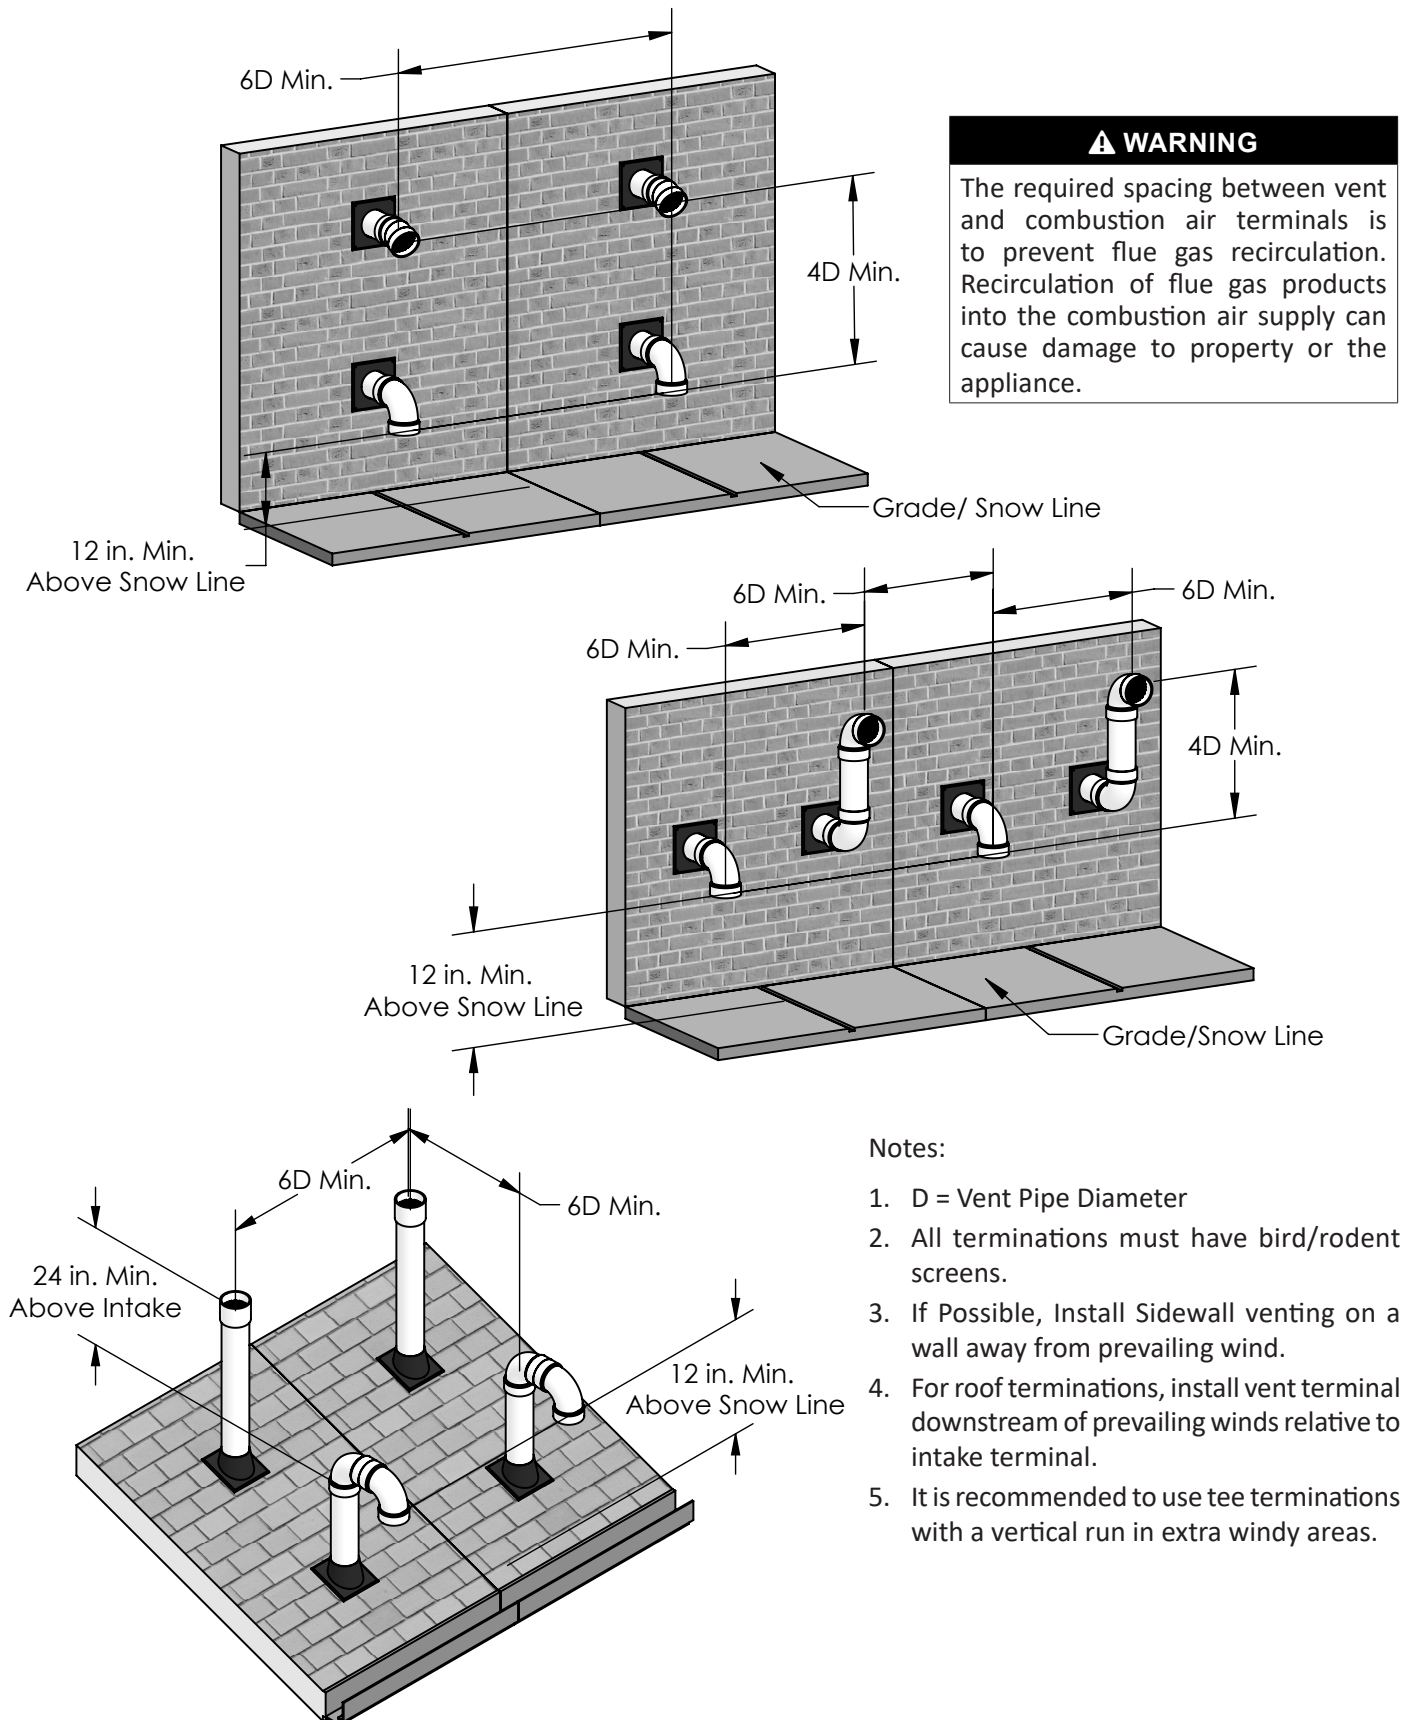

Figure 14: Multiple Appliance Direct Vent Termination
- a. Multiple appliance vent terminations are shown in Figure 14.
- a. Multiple appliance combustion air terminations are shown in Figure 14.